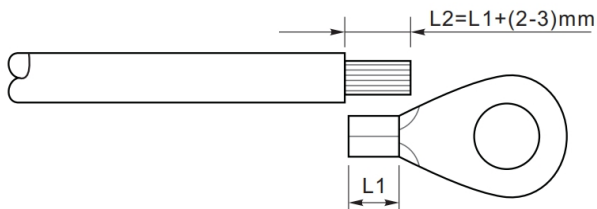

Figure 4-2 Grounding connection instruction (1)
Step 1: Remove the insulation layer with an appropriate length using a wire stripper shown as figure 4-2)